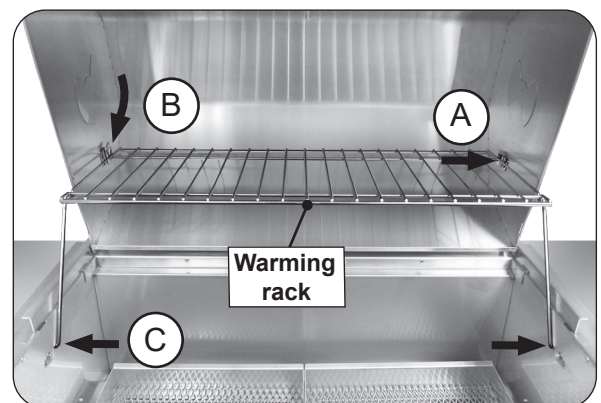

Fig. 12-4 Install warming rack
1. Carefully insert the right-end of the warming rack into the bracket found on the right side of the inner hood (see Fig. 12-4, A).
2. Slide the left-end of the warming rack downward into the left bracket cutout (see Fig. 12-4, B).
3. Install the two legs to the two holes found on the grill firebox inner walls (see Fig. 12-4, C).